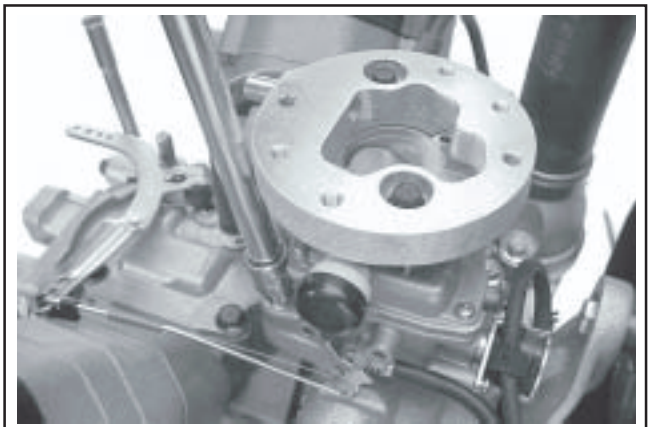

Figure 9-22. Removing the Carburetor Mounting Screws.
3. Remove the two carburetor mounting screws. See Figure 9-22. If a flexible tube and knob idle speed adjuster is used, open the retaining clamp and unhook.